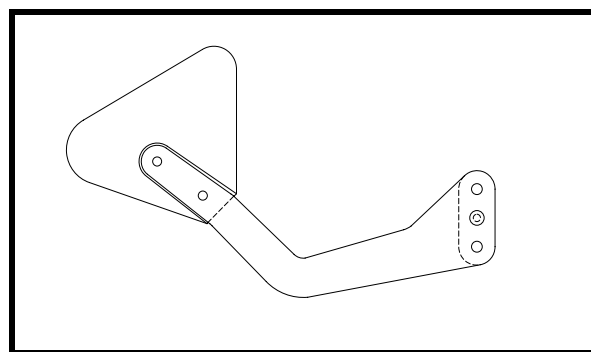

Figure 6
- ❑ Place one P/N 825A arm on the elevator balance weight and drill the two 5/32"Ø holes through the balance weight. See Figure 6.